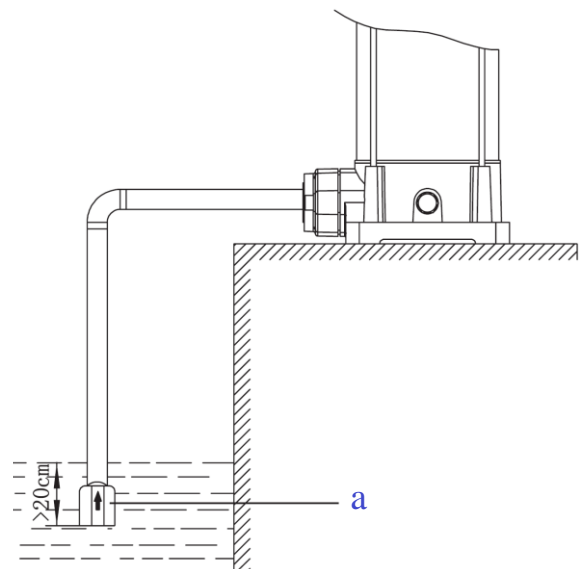

Fig. 2
- Install a foot valve (a) to prevent backflow and filter debris, such as stones, from entering the pump. See Fig. 2 for illustration.